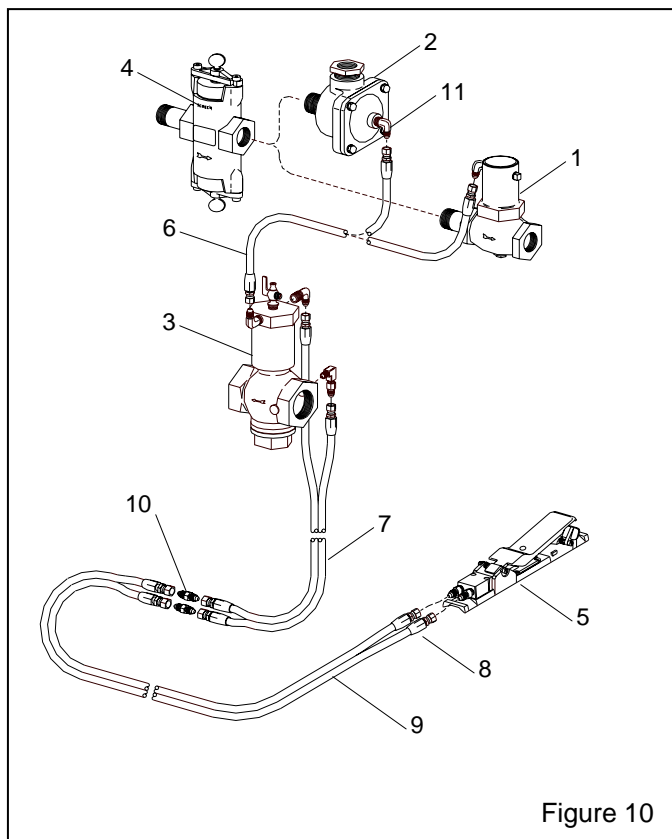

Figure 10
7.4 Remote System, Figure 10
NOTE: All other parts are the same as shown in Section 7.3, and Figure 10. Refer to the RLX manual for replacement parts for the ACS Control. Refer to the Metering valve manual for metering valve replacement parts.